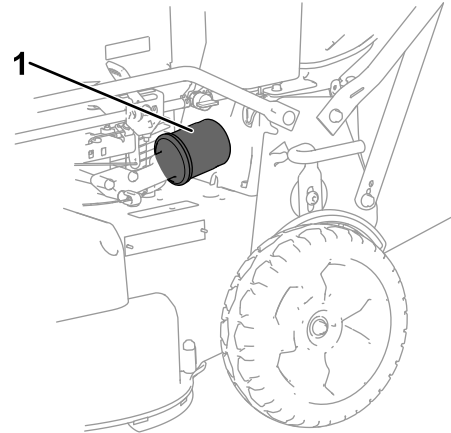

Figure 28
- Remove the oil filter (Figure 28).